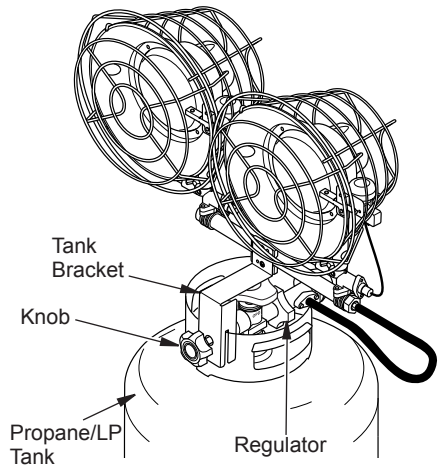

Figure 3 - Attaching Heater to Propane/LP Tank
5. **30,000 Btu Models Only** Attach the heater to the guard on the propane/LP cylinder as shown in Figure 3. Tighten knob on tank bracket to secure heater.